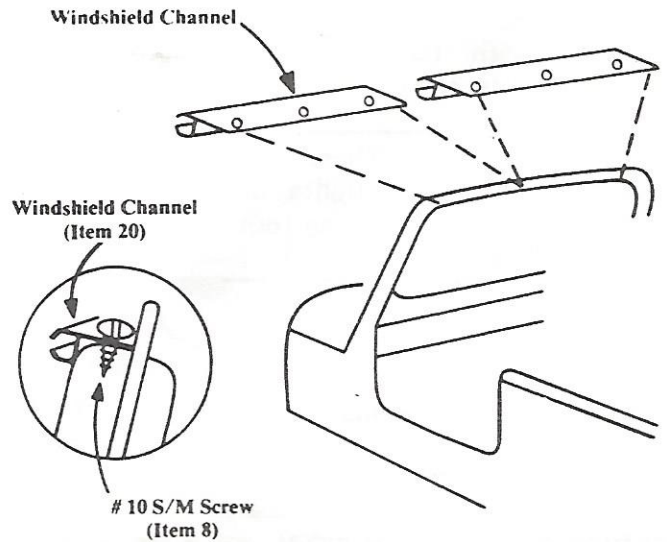

Fig. 9
1. Center Windshield Channels on top of Windshield frame butting channels up against each other as shown in Figure 9. Use channels as a template to mark and drill 5/32" holes in vehicle. Secure channels to vehicle with six #10 Sheet Metal Screws.